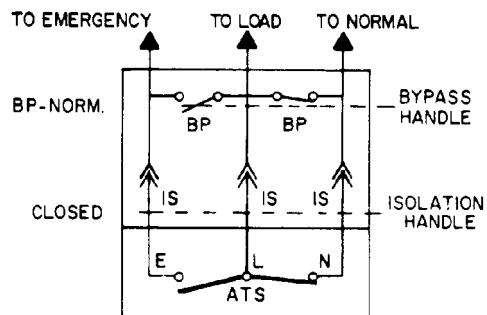

Figure 3-10. Closed position (Isolation contacts are fully engaged.)
5. Push in and turn the **Isolation Handle** counterclockwise to the fully *CLOSED* position (Figure 3-10).